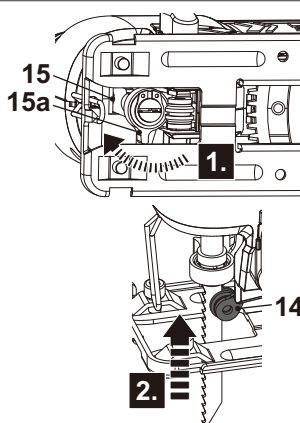

Fig. 1
1. Unlock the saw blade holder (15) by turning the blade clamp lever (15a) in an anti-clockwise direction and hold it in position (Fig. 1, step 1).
2. Align and insert the saw blade into the saw blade holder (15) to the stop (Fig. 1, step 2).
3. Release the locking sleeve (15a). It must turn back completely and make sure the saw blade sits firmly in the saw blade holder (15).
5. Make sure when inserting the saw blade that the back of the saw blade is in the groove on the guide roller (14).